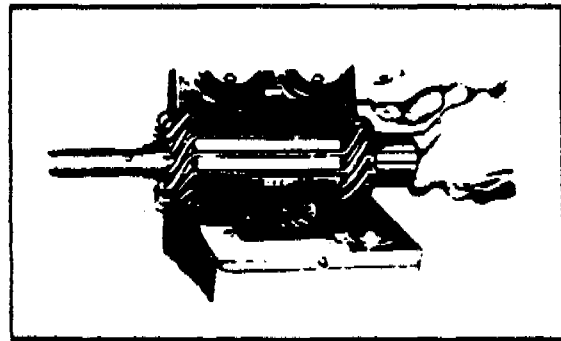

FIGURE 9-29c. TESTING MOTOR ARMATURE FOR SHORTS
c. To test for shorted armature coils, a growler is used. (Refer to Figure 9-29c.) The armature is placed on the growler and slowly rotated by hand while a steel strip is held over the core so that it passes over each armature core slot. If a coil is shorted, the steel strip will vibrate.